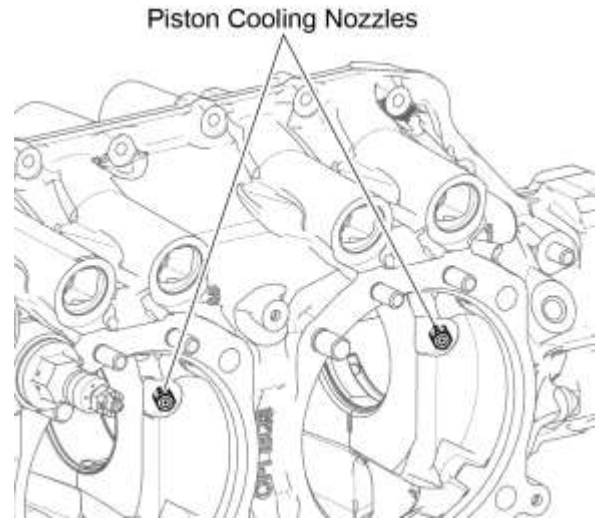

Figure 60
- (10) If the gage does not move freely between the ends and under the top of the circlip, the circlip seating is not correct. Install the circlip again and complete a check of the circlip seating again per the previous steps. The circlip must be seated correctly.
- B. Install three piston cooling nozzles in each crankcase half (Figure 60).